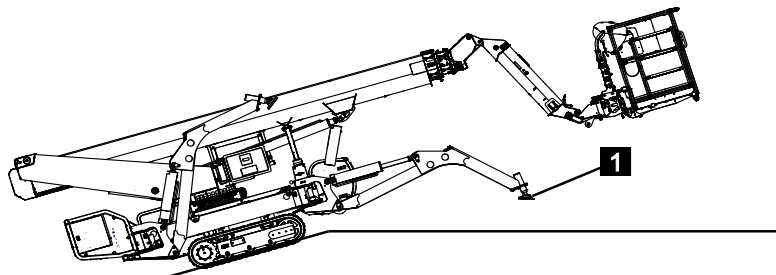

Fig. 108
5. Make sure that the bracing pads (Fig.108/1) remain just above the ground if possible.